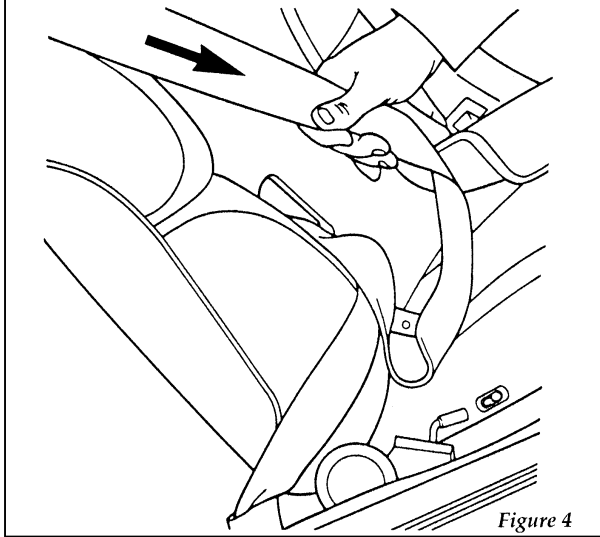

Figure 4
5. Grasp the shoulder portion of the belt and pull downward until all of the belt is extracted and a click is heard. At this time, the retractor is in the automatic locking mode (child seat restraint mode). See Figure 4.